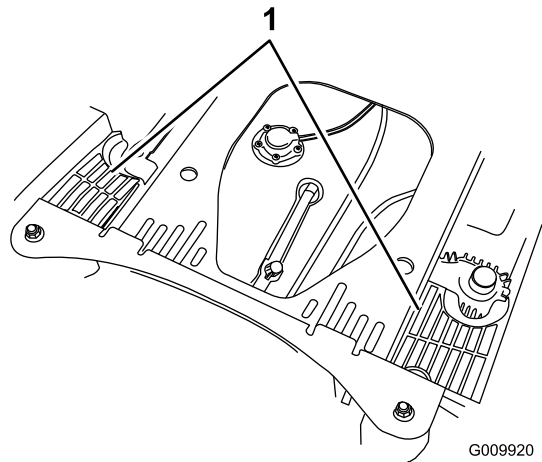

**Figure 73**
Before each use, remove any buildup of grass, dirt, or other debris from the engine screen. This helps ensure adequate cooling, correct the engine speed, and reduces the possibility of overheating and mechanical damage to the engine (Figure 73).
3. Remove the air-intake screen, the recoil starter, and the fan housing (Figure 73).
5. Install the air-intake screen, the recoil starter, and the fan housing (Figure 73).